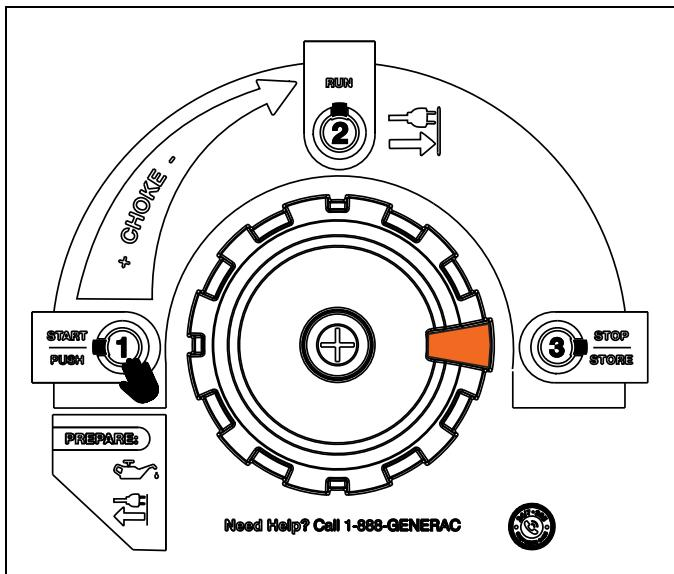

Figure 3-4. PowerDial STOP position
3. See Figure 3-4. Rotate the PowerDial clockwise to the STOP position. This will shut down the engine and turn off the fuel flow by closing the fuel valve.